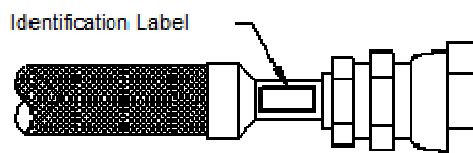

Figure 9 Attach Identification Label
1. SCAI furnishes identification labels for the customer to attach to the gas lines. Before installing the gas lines, identify each with its appropriate label, SUPPLY (color-coded red) or RETURN (color coded green) by applying the label adjacent to each Aeroquip coupling. See Figure 9.